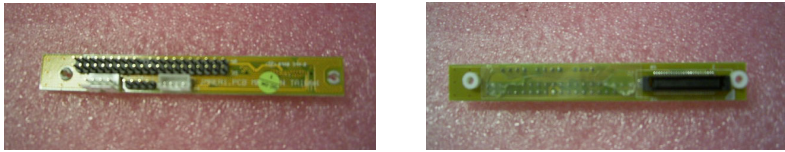

Figure 2.12: Interface converter for slim-type CD-ROM drive
2. Find a small interface converter in the accessory box (see Figure 2.12). Connect it to the slim-type CD-ROM drive. Then fix it to the CD-ROM by tightening the two screws provided.